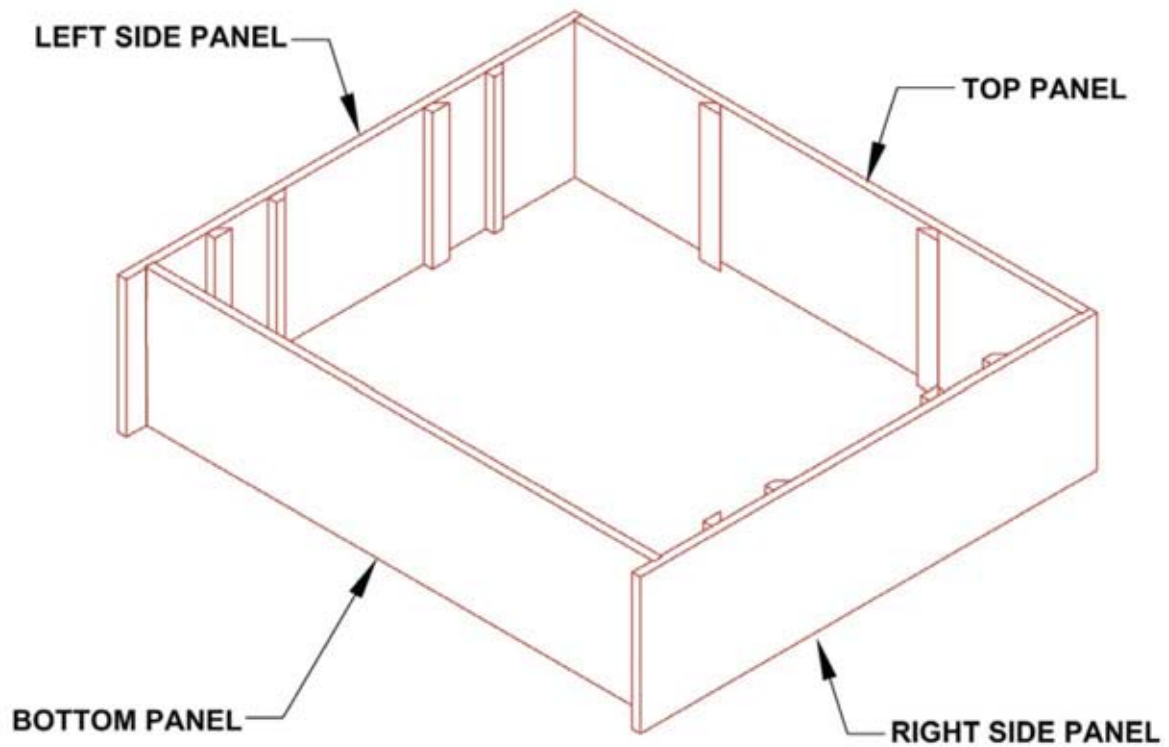

Figure 4
5. Your outer frame should be assembled and resemble **Figure 4**.